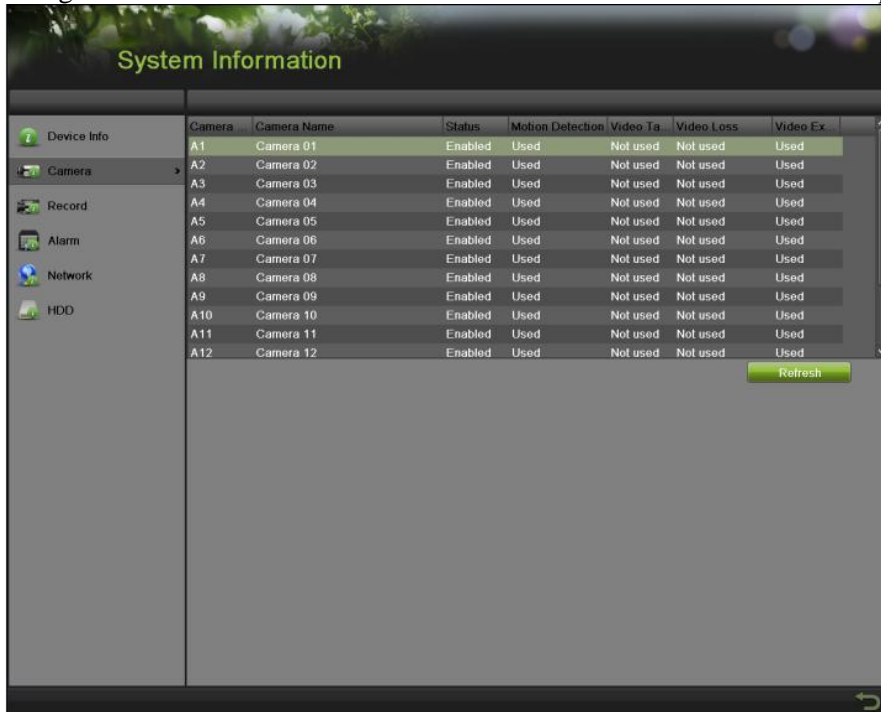

Figure 20 Camera Information Menu
2. Select the Camera tab to enter the Camera Information menu to view the status of each camera, as shown in Figure 20. You can click the refresh button to renew the information displayed.